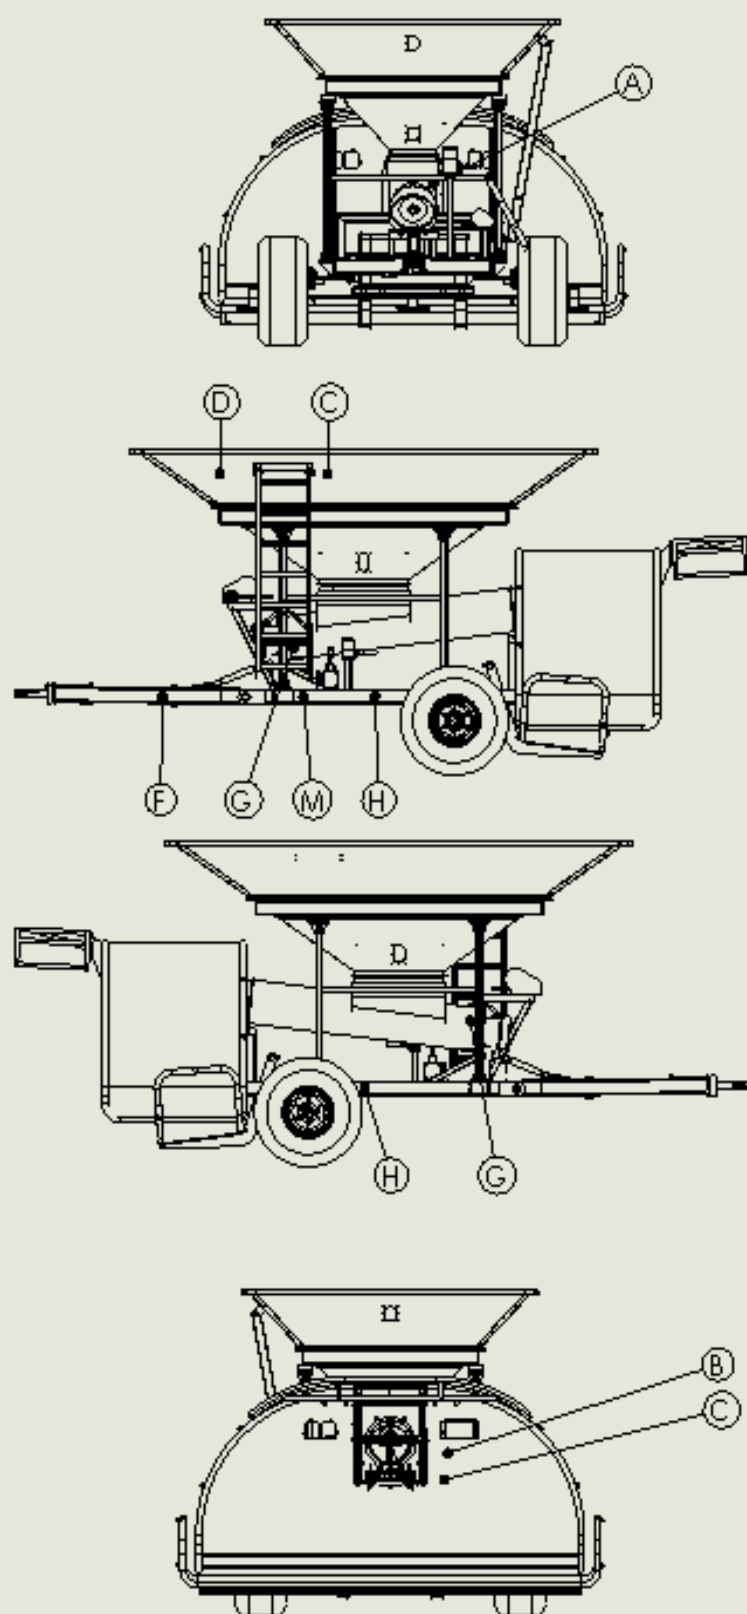

Fig. 1
2.2 Model plate and CE marking on the machine (Fig. 1)